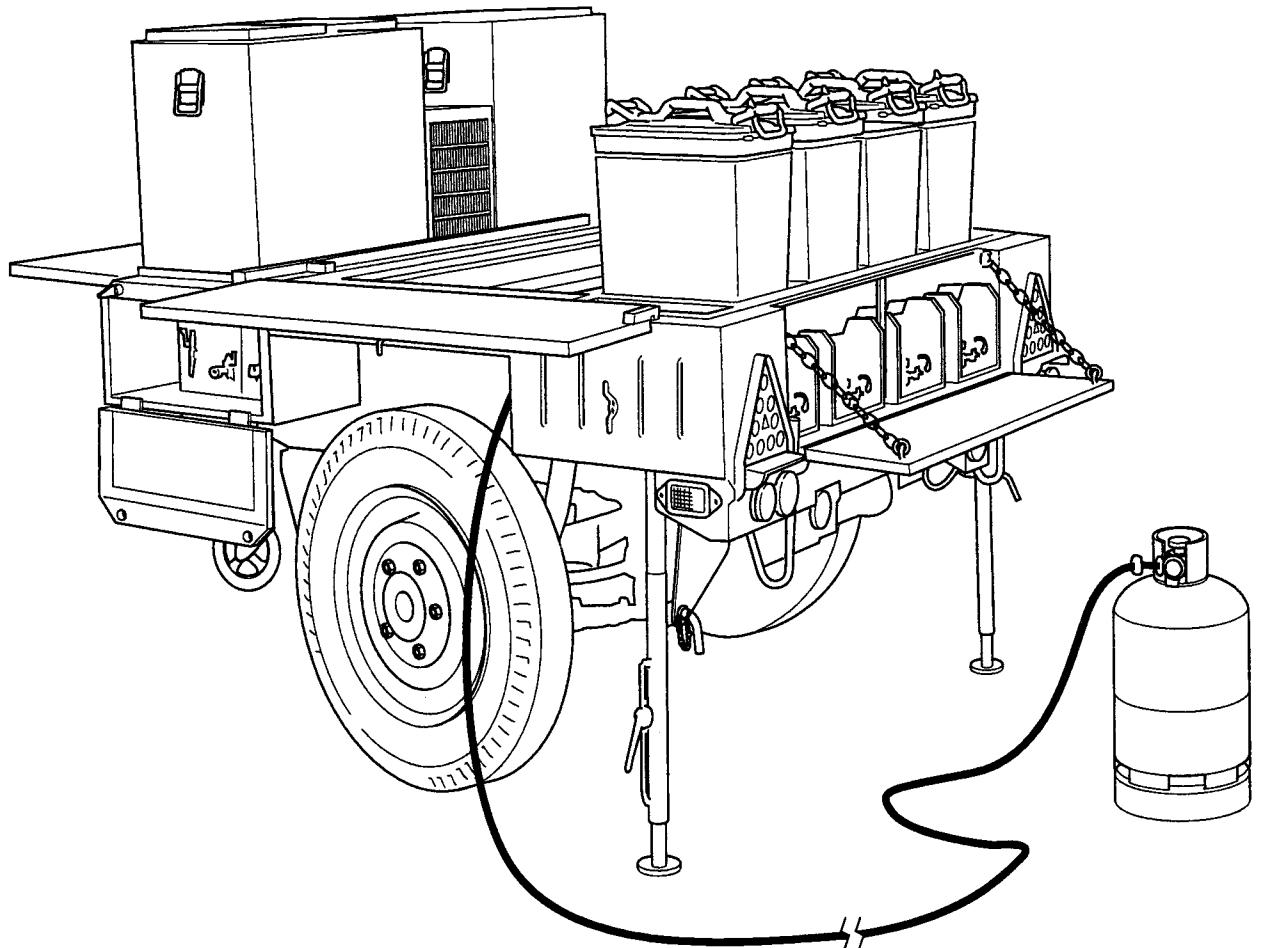

Fig 8 Outfit set up for operation
9 Remove LPG cylinders from the towing vehicle and locate in safe area. Set up for operation as shown in Fig 8.
- 12 Open the two access doors situated on either side of the Cooking Outfit beneath the ovens and lower the tail-gate as shown in Fig 8.